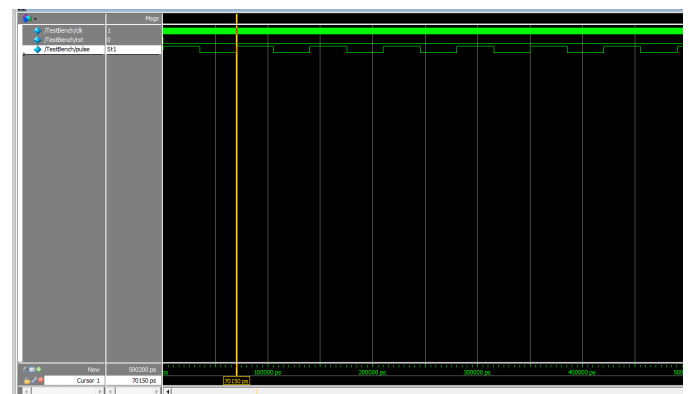

Figure 12
- A clearer picture of Figure12 exists in Project/Part2 folder.